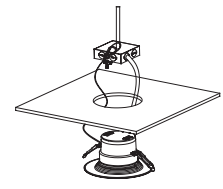

Fig. 8
- Step 3: Insert lamp conduit into the J-box and wire to power source (black to hot, white to neutral, violet to 0-10V dimming positive, gray to 0-10V dimming negative) ( Fig. 8). Reattach J-box cover when done;